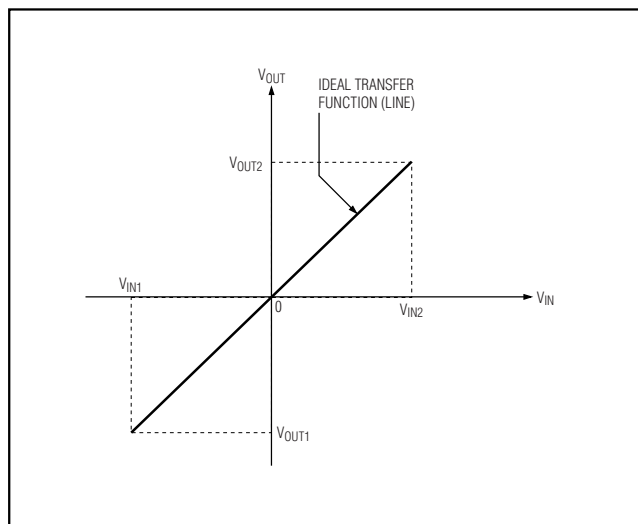
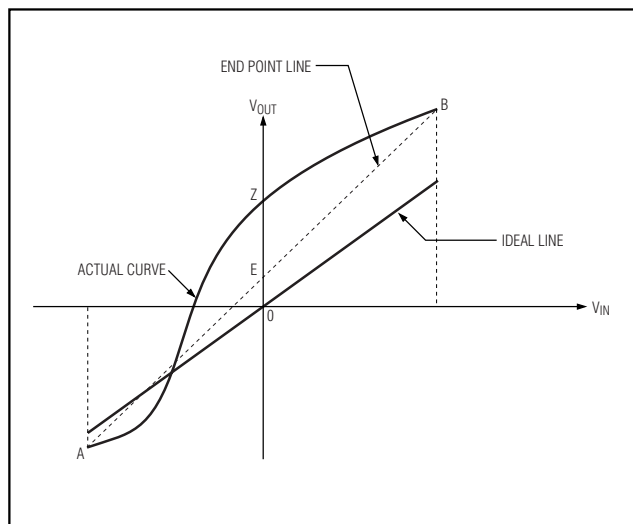
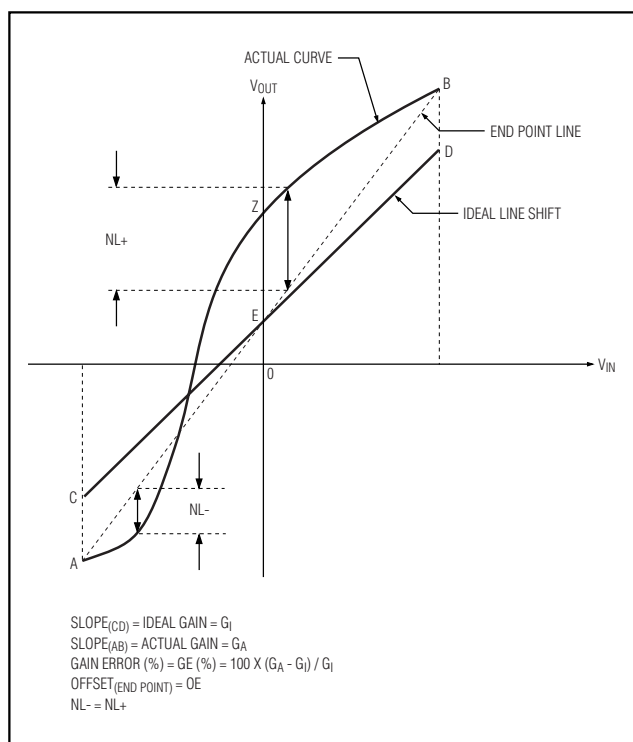

Figure 3. Transfer Function of an Ideal Instrumentation Amplifier (A Straight Line Passing Through the Origin)
Figure 4. Typical Transfer Function for a Real Instrumentation Amplifier
Figure 5. Typical Transfer Function for a Real Instrumentation Amplifier (Ideal Line (CD) is Shifted by the End Points Offset (OE) to Visualize Gain Error)
In order to understand these terms, we must look at the transfer function of an ideal instrumentation amplifier. As expected, this must be a straight line passing through origin with a slope equal to the ideal gain (see Figure 3). If the ideal gain is equal to 10 and the extreme applied input voltages are -100mV and +100mV, then the value of the output voltages will be -1V and +1V, respectively. Note that the line passes through the origin and therefore a zero input voltage gives a zero output response.
The transfer function of a real instrumentation amplifier is quite different from the ideal line pictured in Figure 3. Rather, it is a curve such as the one indicated as the typical curve in Figure 4, connecting end points A and B.
Second, even if there was no nonlinearity error, that is, the actual curve in Figure 4 was a straight line connecting the end points A and B, there exists an obvious slope deviation from that of an ideal gain slope (drawn as the "ideal" line in Figure 4). This rotational error (delta slope) is a measure of how different the actual gain ( $G_A$ ) is from the expected ideal gain ( $G_I$ ) and is called Gain Error (GE) (see equation).
Figure 5 is the same as Figure 4, but the ideal line (CD) is shifted up to pass through point E (the Y intercept of the end points line AB).
The rotational nature of gain error and the fact that it is pivoted around point E in Figure 5, shows that gain-error contribution to the total output voltage error is directly proportional to the input voltage. At zero input voltage, the error contribution of gain error is zero, that is, the total deviation from the origin (the expected zero output value) is only due to end points offset error (OE) and nonlinearity error at zero value of input (segment EZ on the vertical axis).
The nonlinearity is the maximum deviation from a straight line, and the end point nonlinearity is the deviation from the end-point line. As shown in Figure 5, it is likely that one encounters two nonlinearities, one positive and the other a negative nonlinearity error, shown as NL+ and NL- in Figure 5.